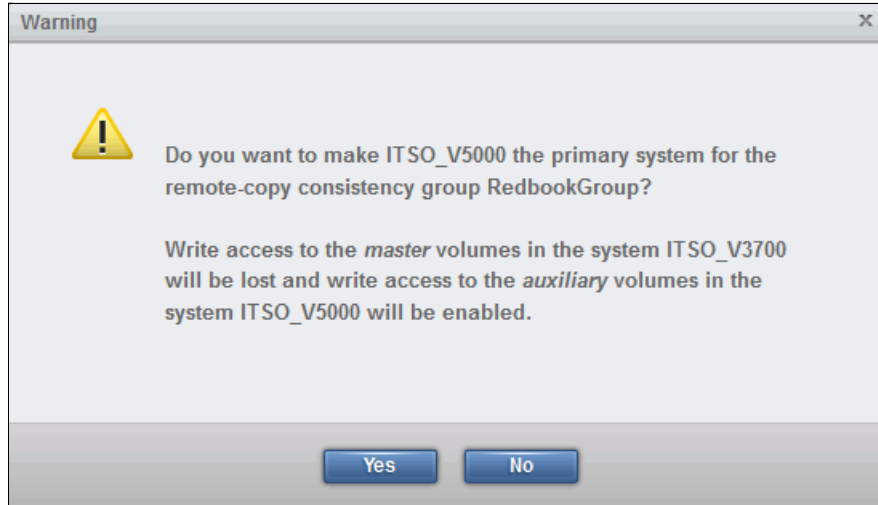

Figure 10-141 Warning message to confirm the switch
2. A warning message opens, as shown in Figure 10-141. After the switch, the primary volumes in the consistency group change. Write access to current master volumes is lost, while write access to the current auxiliary volumes is enabled. This change affects host access, so make sure that these settings are what you need. If so, click **OK** to continue.